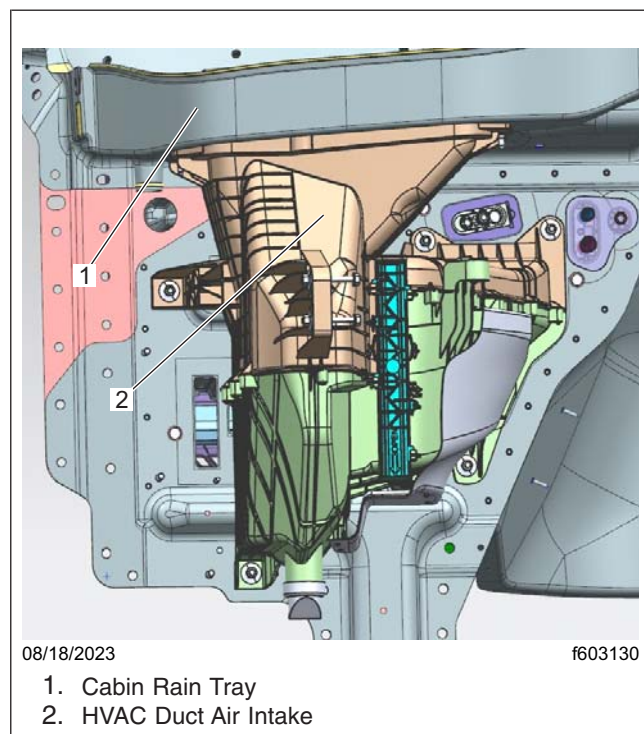
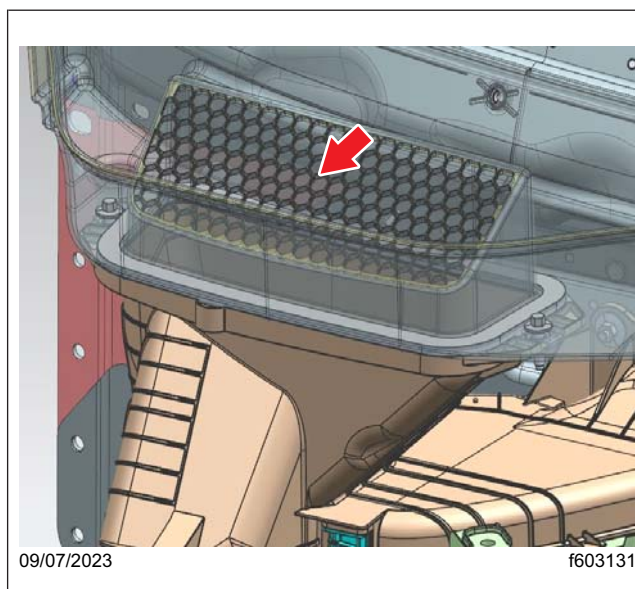

Fig. 2, Location of the Cabin Rain Tray and HVAC Duct Air Intake
Fig. 3, Cabin Rain Tray
5. Remove the heating, ventilating, and air conditioning (HVAC) duct air intake to access the fastener location, which is behind the duct. See Fig. 2 and Fig. 3. Location of air intake and the huck fastener are shown in Fig. 4 and Fig. 5.